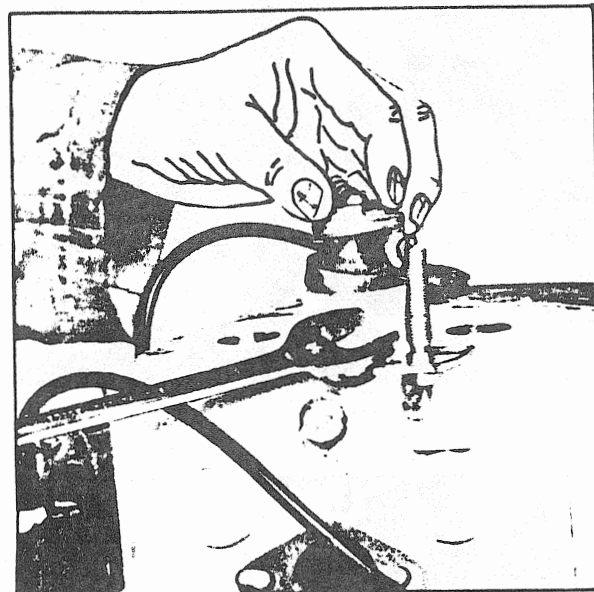

FIGURE 5
- Unscrew with a 13mm wrench the two (2) carburetor flange nuts.
- Remove carburetor, the two (2) sleeves, gaskets and plastic flange from engine block.
- Remove water outlet nipple assembly from cylinder block (fig. 5).